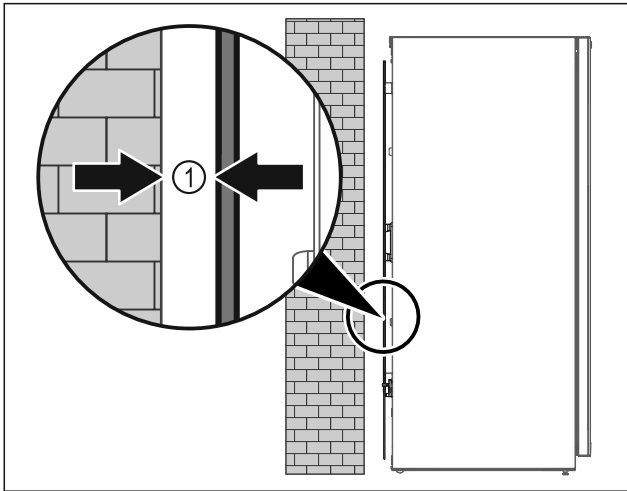

Fig. 5
- ▶ Set up the appliance either free-standing or directly against a wall at a minimum distance of 5 mm Fig. 5 (1).